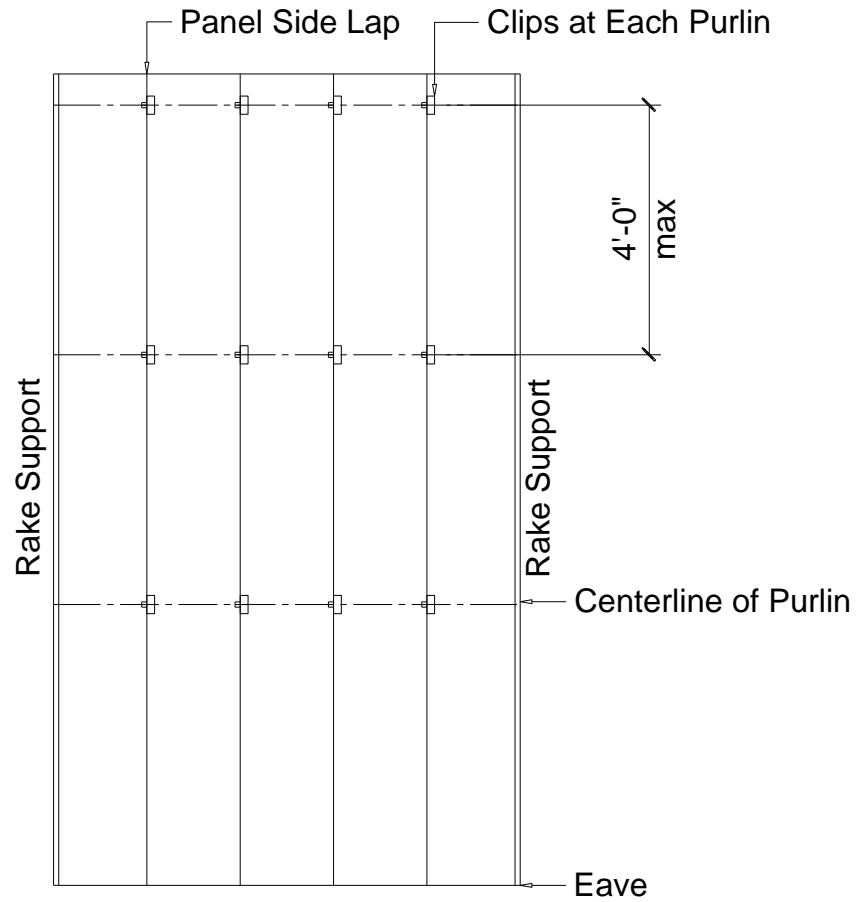

Figure 1. Clip Spacing for NFS-16 Roof Panel
**Attachment of Roof Panels to the Steel Purlins:** The roof panels must be secured to the steel purlins with one-piece panel clips (3-1/2" long, 1-7/8" high, 18-gauge, galvanized steel). Each clip is secured to the steel purlins with two (2) No. 10-16 x 1" pancake self-driller screws manufactured by SFS. Refer to Figure 1 in this evaluation report. The fasteners must be long enough to ensure a minimum penetration of 3 pitches of thread below the purlins. The fasteners must be located at each steel purlin.